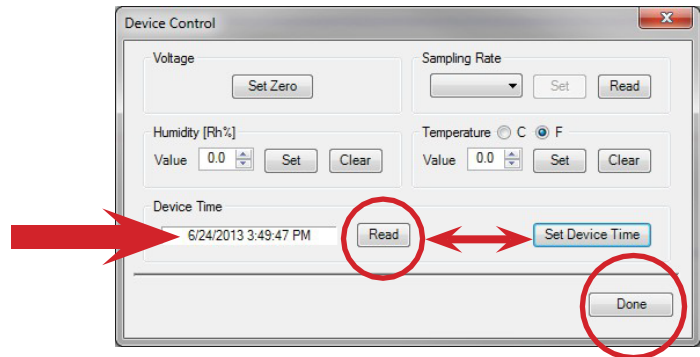

Figure 13: Use Edit drop down Menu to Access Device Control Window for setting Set PGA-710B Date & Time
2. Select **Device Control** (see Figure 13)